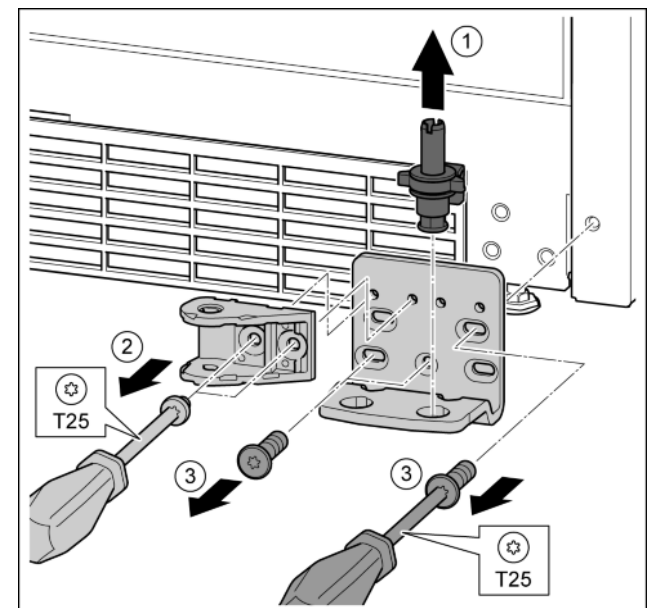

Fig. 29
- ▶ Lift the bearing pin completely upward and remove. Fig. 29 (1)
- ▶ Remove the screws with the T25 screwdriver and remove the soft stop connection. Fig. 29 (2)
- ▶ Undo the screws with a T25 screwdriver and remove the bearing bracket *Fig. 29 (3)*